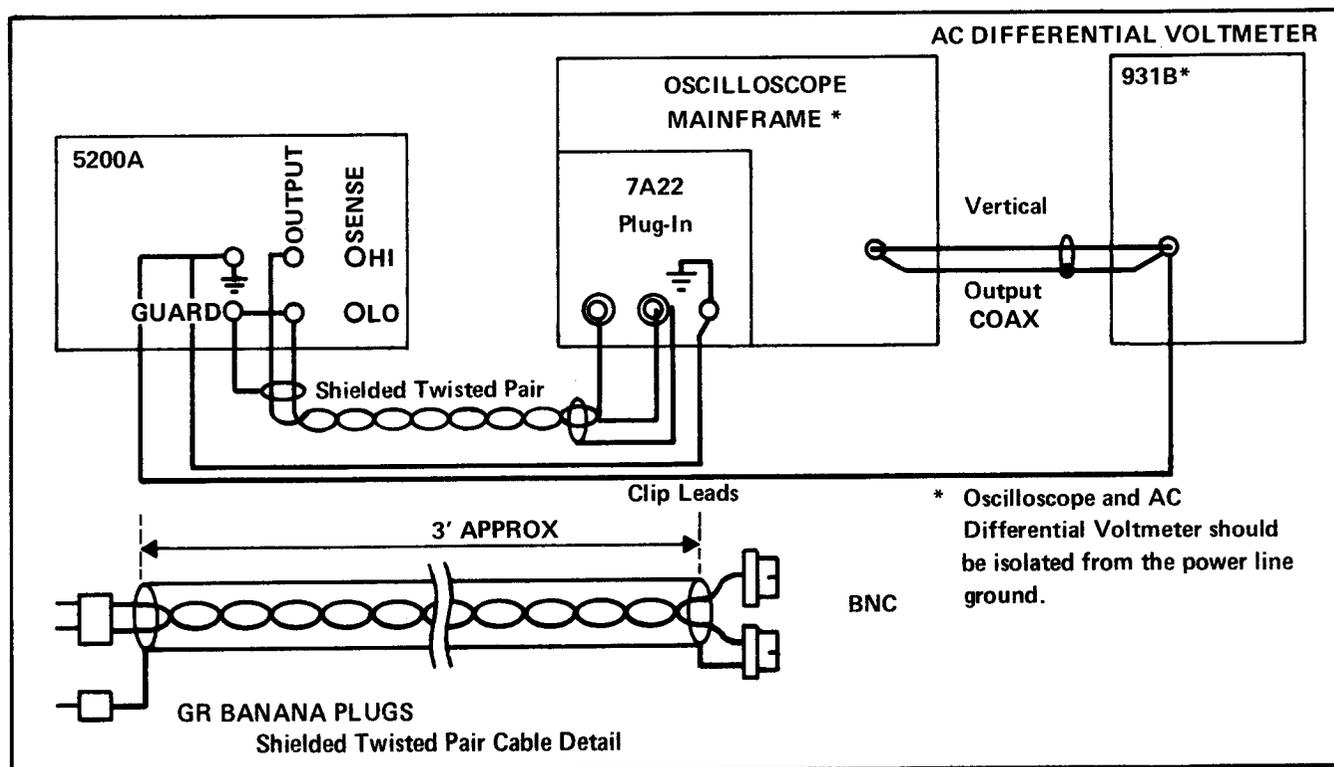

Figure 4-4. OUTPUT ACCRUACY MILLIVOLT CONFIGURATION
- g. Connect the equipment as shown in Figure 4-4 for the remainder of the test.